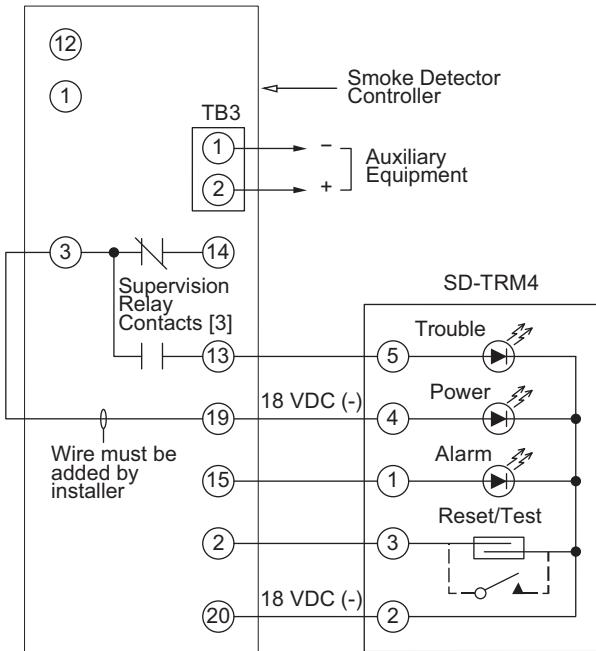

Fig. 44 – Remote Test/Reset Station Connections
The test/reset station dirty sensor test checks the test/reset station's ability to initiate a sensor dirty test and indicate the results. It must be wired to the controller as shown in Fig. 44 and configured to operate the controller's supervision relay. For more information, see "Dirty Sensor Test" on page 34.
1. Verify that the remote test/station is wired as shown in Fig. 44. Repair or replace loose or missing wiring.